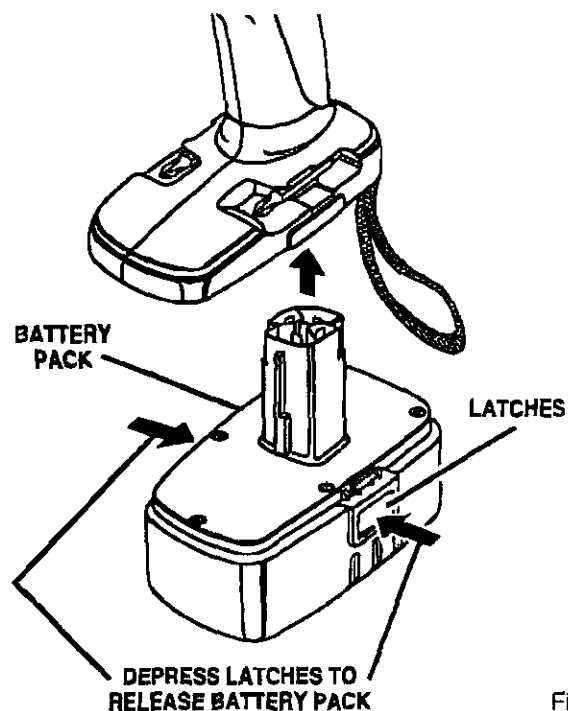

Fig. 4
- Place battery pack in your drill. Align raised rib on battery pack with groove inside drill. See Figure 4.
- Locate latches on side of battery pack and depress to release battery pack from your drill. See Figure 4.